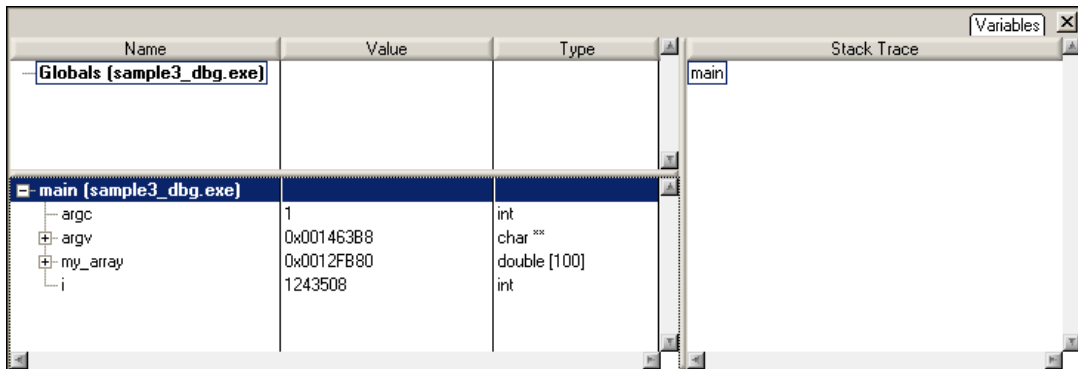

Figure 4-2. Variables Window during Execution of main
3. Select **Window»Variables** to view the Variables window, shown in Figure 4-2.
**Note** The values you see for your project might differ from the values shown in Figure 4-2.